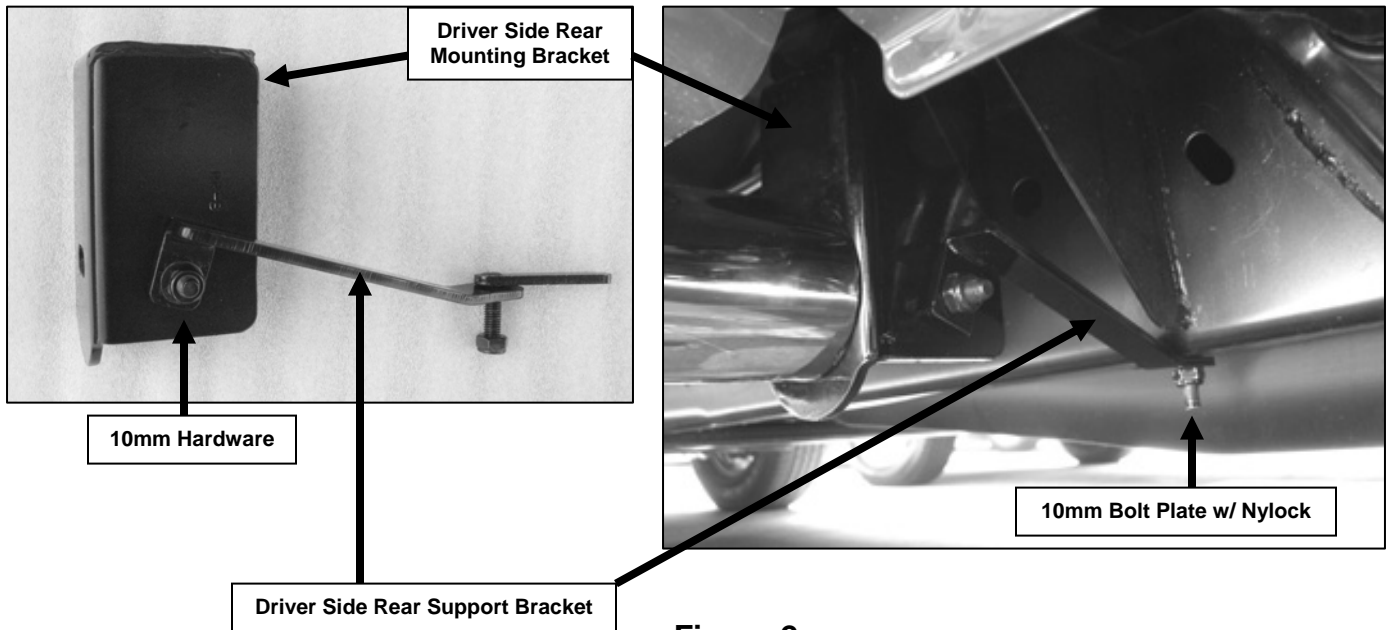

Figure 2
6. Locate Driver Side Rear Support Bracket and mounted to the Driver Side Rear Mounting Bracket by using the included (1) 10-1.50mm x 30mm Hex Head Bolt, (1) 10mm Nylock Nut, and (2) 10mm Flat Washers (Figure 2). Do not tighten at this time.
7. Mount the other side on the Driver Side Rear Support Bracket to the existing hole on the frame by using the included (1) 10-1.50mm x 35mm Bolt Plate and 10mm Nylock Nut (Figure 2). Do not tighten at this time.
8. Carefully mount the Driver Side Bar onto Mounting Brackets by using the included (2) ½" x 2" Hex Head Bolts, (2) ½" Flat Washers, and (2) ½" Lock Washers. Do not tighten at this time.